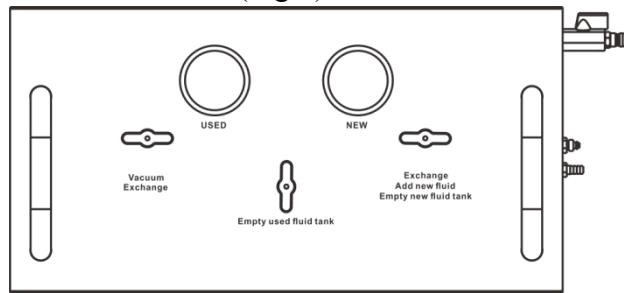

Fig.9
2. Open “Vacuum/Exchange” and “Exchange/Add new fluid/Empty new fluid tank” valves, open the shop air, and open the hand valves on both hoses; (Fig.9)